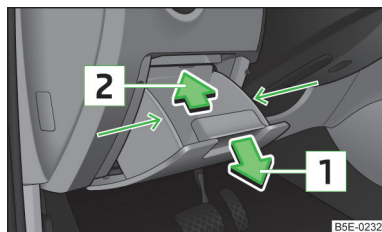

Fig. 207
- Grab hold of the storage compartment in the area of the arrows » Fig. 207.
- Replace the appropriate fuse » Fig. 207 on page 231.